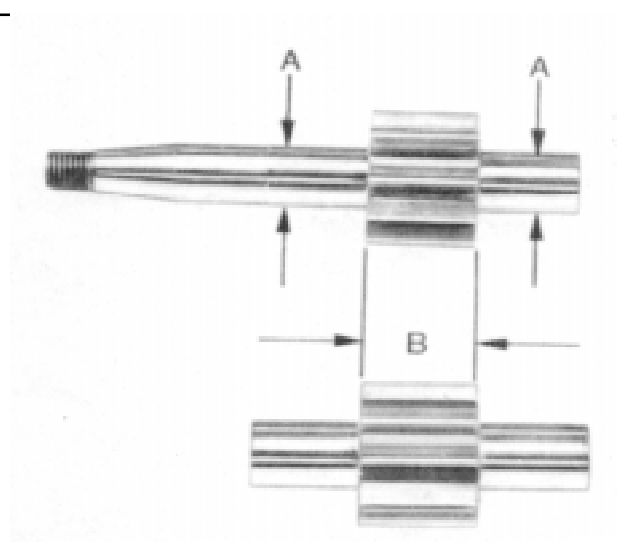

Figure 57
- (i) Gear widths of drive and driven gears must be within 0.0002 in. (0.005 mm.) of each other to ensure satisfactory pump efficiency, Figure 57.
- (ii) Journals must be within 0.0005 in. (0.013 mm.) of each other, Figure 57.